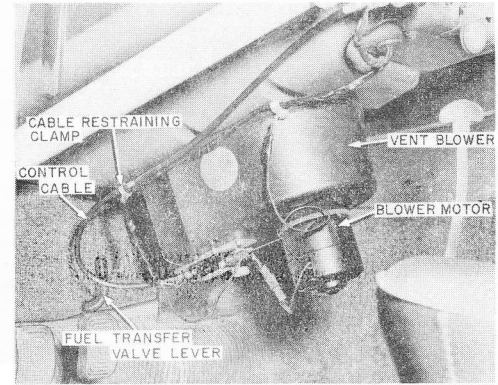
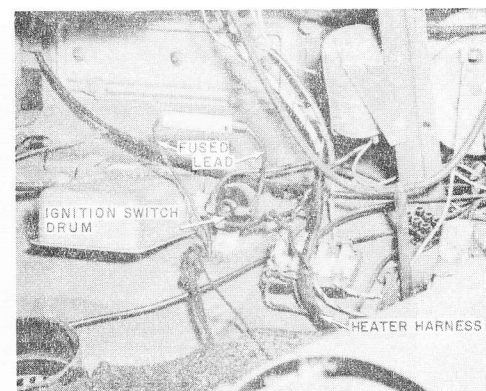

FIGURE 4
FIGURE 14
7. Arrange the control cable on the under side of the luggage compartment in a smooth curve and attach it to the vent blower mounting stud with the clamp provided. (See Figure 4)
1. In the luggage compartment and on the cowling, locate the ignition switch (See Figure 14). Just forward of and directly below, drill one 3/4 inch diameter hole through the luggage compartment deck.
6. Inside the passenger compartment, connect the two (2) lugs to the heater switch.
7. Clamp the harness finger (refer to Paragraph 4 above) to the stud on the vent blower housing. (See Figure 4)
8. There are three (3) lugs at the end of the finger (refer to Paragraph 7 above) which are to be connected as follows: